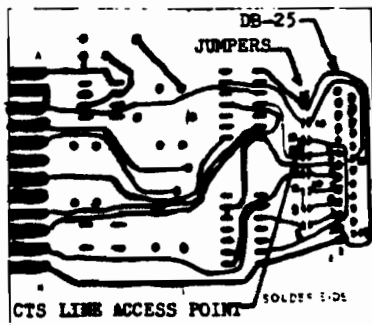

Fig. 1 Solder side view of circuit board depicting jumper number and DB-25 pin-out.
The V232 is designed to provide four RS-232 compatible output lines and four RS-232 compatible input lines. One of each of these I/O lines are utilized for data receiving and transmitting while the others are available for handshake. The RS-232 wedge program provided with this documentation monitors one of the input lines and suppresses output as long as this line is at an RS-232 "high" level. The particular line that is monitored is the CTS line which can be accessed on the solder side of the printed circuit board where jumper pads 12 and 13 are connected by etch. (see Fig. 1). Printers that have a busy line should utilize this pad junction as the point at which the busy line connects to the V232 interface. Certain other printers require that pin 6 and pin 20 of the DB-25 connector be connected together. This can be accomplished by connecting jumpers on pads 6 and 14. When printers are being used with the V232, the jumpers located on the component side should be cut as these jumpers are only applicable for modem operation (except for jumper pad 6, which may be necessary for certain printers). Printers that have memory buffers will generally only require jumpers 6, 8, and 14 for correct operation.
c) Connect an insulated wire between the DB25 pin 11 and the junction of the etch connecting jumper pads 12 and 13 (see Fig. 1). Do not jumper pads 12 and 13.
c) Connect an insulated wire between the DB25 pin 11 and the junction of the etch connecting jumper pads 12 and 13 (see Fig. 1.) Do not jumper pads 12 and 13.